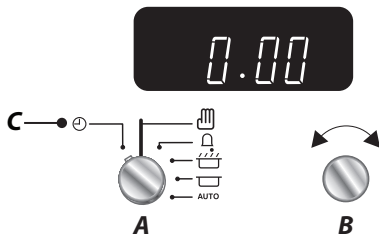

Fig. 2.14
2. Turn the **Timer (A)** knob to the **Clock (C)** setting and hold for approx 8 seconds. The display will show **'ON'** (**Fig. 2.14**).